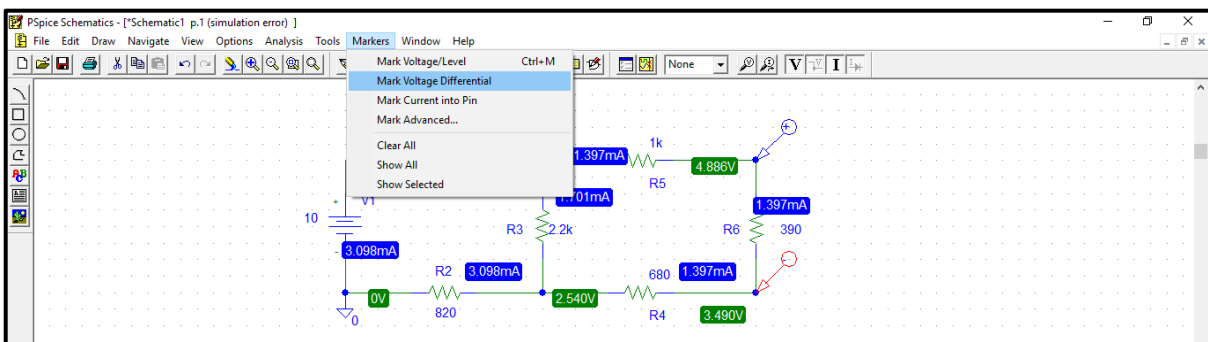

Figure.20
- If you want to display the voltage on R6 only, then go to schematic window, click on marker, and select “mark voltage differential” as shown in figure.20. (you will place two markers)